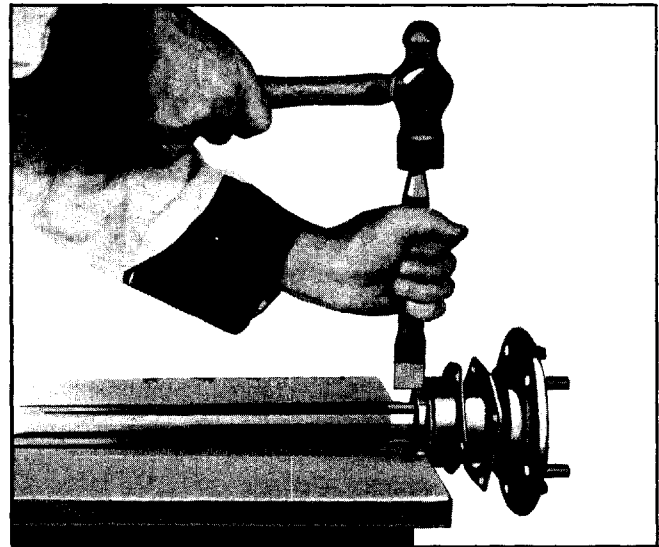

Fig. 4-11 Splitting Bearing Retainer Ring
2. Remove bearing retainer ring by carefully cutting it with a cold chisel as shown in Fig. 4-11. Do not cut into shaft with chisel. It is not necessary to cut entirely through retainer. If a new bearing is to be installed, unserviceable bearing and retainer may be pressed off shaft together. This must not be done if bearing is to be used again because of danger of brinelling bearing.